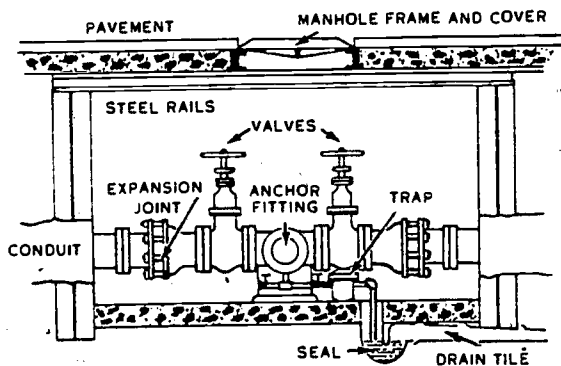

Figure 46. A typical manhole.
5. The bottom of the trench for the conduit should be filled with coarse gravel or broken rock to provide support and adequate water drainage. When allowed to collect, the water seeps into the conduit through porous openings in the sealer. This wets the insulation and causes it to lose much of its insulating value. Manholes are required at intervals along the line to house the necessary valves, traps, and expansion joints. A typical manhole is illustrated in figure 46.